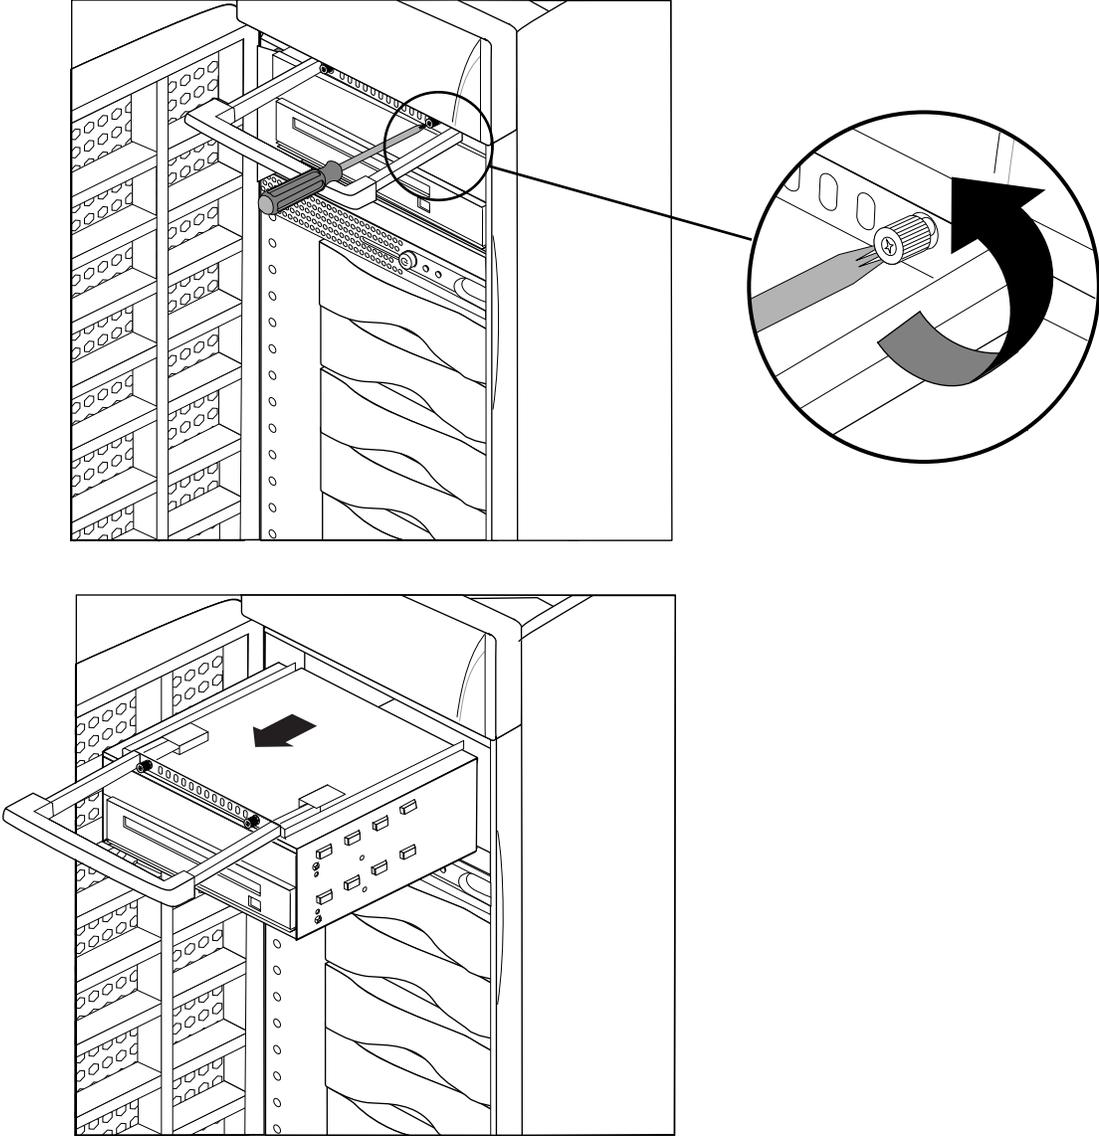

Figure 7-7 Removing the Peripheral Carrier
1. Remove the peripheral carrier, as shown in Figure 7-7.